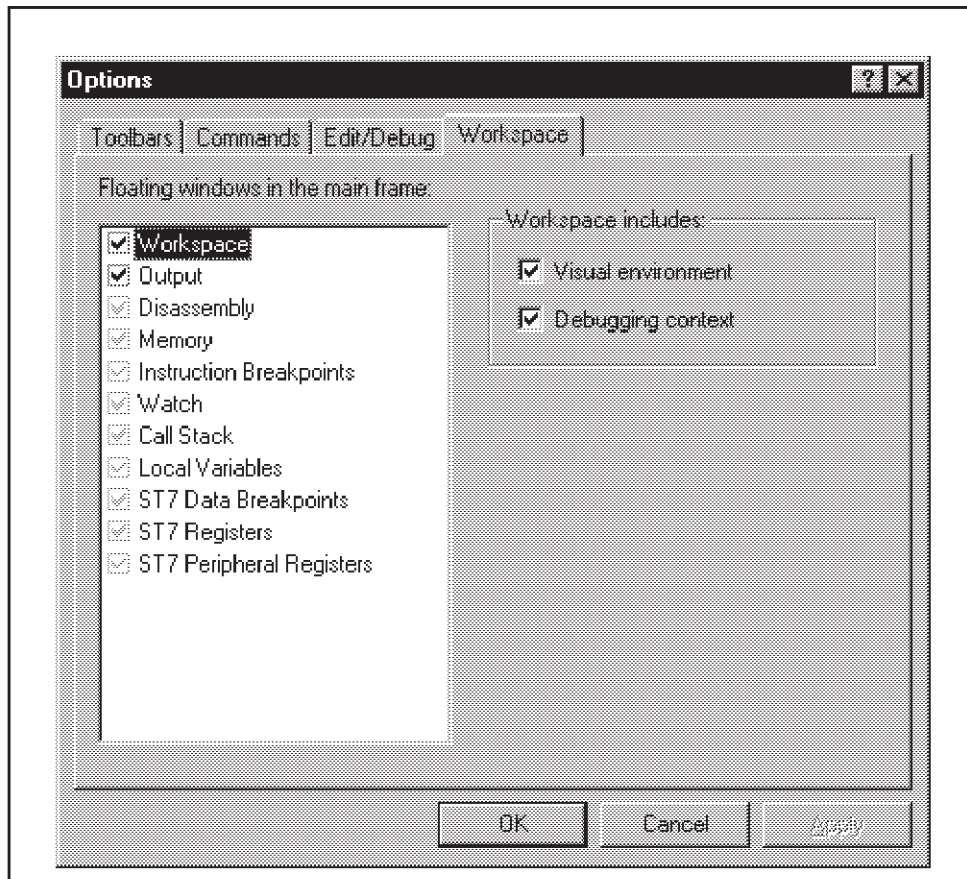

Figure 10: Options window
- 2 In the Options window that opens (see *Figure 10 on page 40*), select the **Workspace** tab.